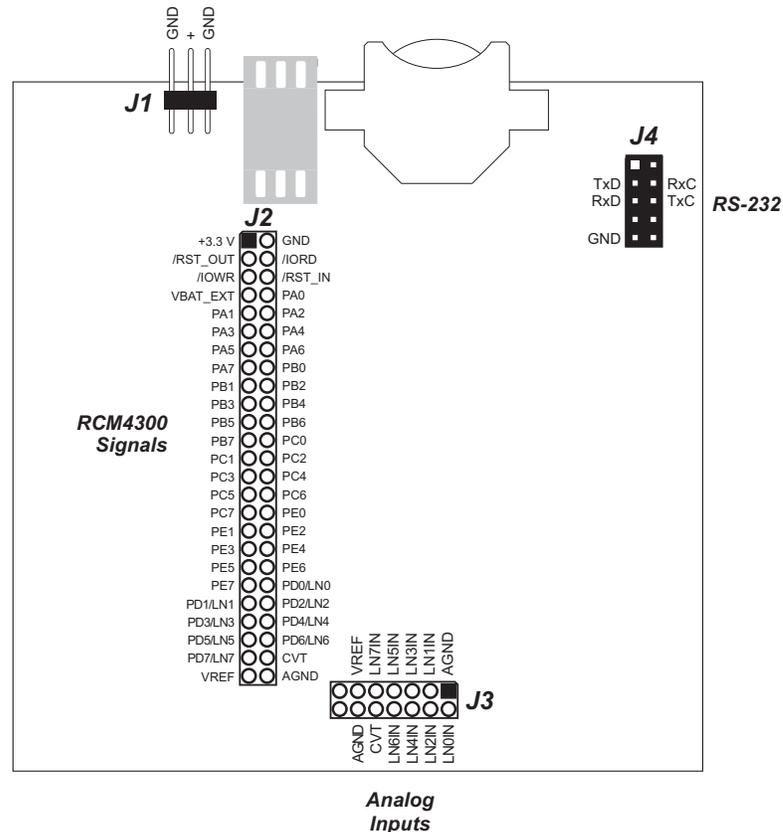

Figure B-4. Prototyping Board Pinout
- **Module Extension Header**—The complete pin set of the RCM4300 module is duplicated at header J2. Developers can solder wires directly into the appropriate holes, or, for more flexible development, a 2×25 header strip with a 0.1" pitch can be soldered into place. See Figure B-4 for the header pinouts.
- **Analog Inputs Header**—The Prototyping Board's analog signals are presented at header J3. These analog signals are connected via attenuator/filter circuits on the Prototyping Board to the corresponding analog inputs on the RCM4300 module. Developers can solder wires directly into the appropriate holes, or, for more flexible development, a 2×7 header strip with a 0.1" pitch can be soldered into place. See Figure B-4 for the header pinouts.
The Prototyping Board provides the user with RCM4300 connection points brought out conveniently to labeled points at header J2 on the Prototyping Board. Although header J2 is unstuffed, a 2×25 header is included in the bag of parts. RS-232 signals (Serial Ports C and D) are available on header J4. A header strip at J4 allows you to connect a ribbon cable, and a ribbon cable to DB9 connector is included with the Development Kit. The pinouts for these locations are shown in Figure B-4.